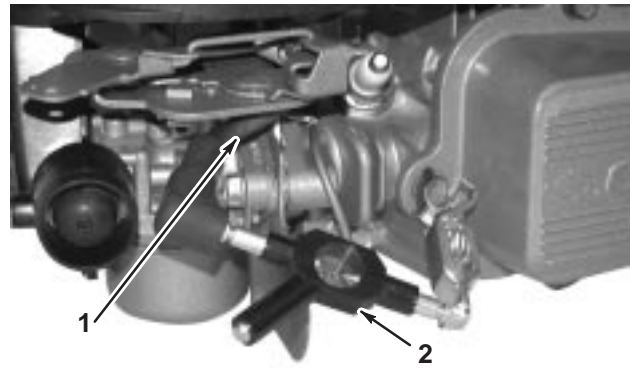

Fig. 9 – Checking for Spark
1. Connect spark plug wire to Spark Tester, Fig. 9.